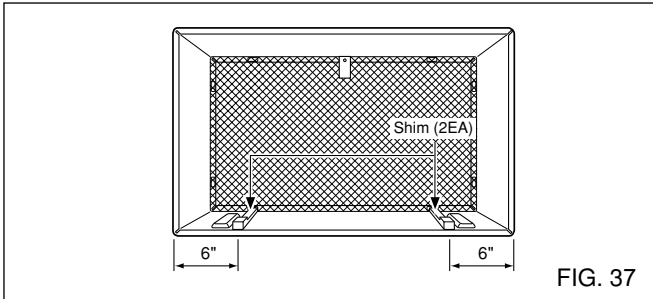

FIG. 37
- 7** To achieve rearward slope for unit draining, remove the backing from the $1\frac{13}{16}$ " shim strips and attach them as shown below in Fig. 37. The higher portion of shim is to be placed in front of the rib on the base of wall sleeve.